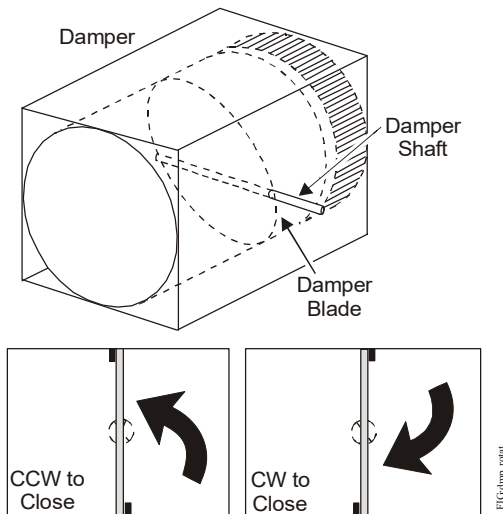

Figure 3: Damper rotation
2. Grasp the damper shaft firmly with pliers and rotate the damper fully closed, as illustrated in Figure 3.